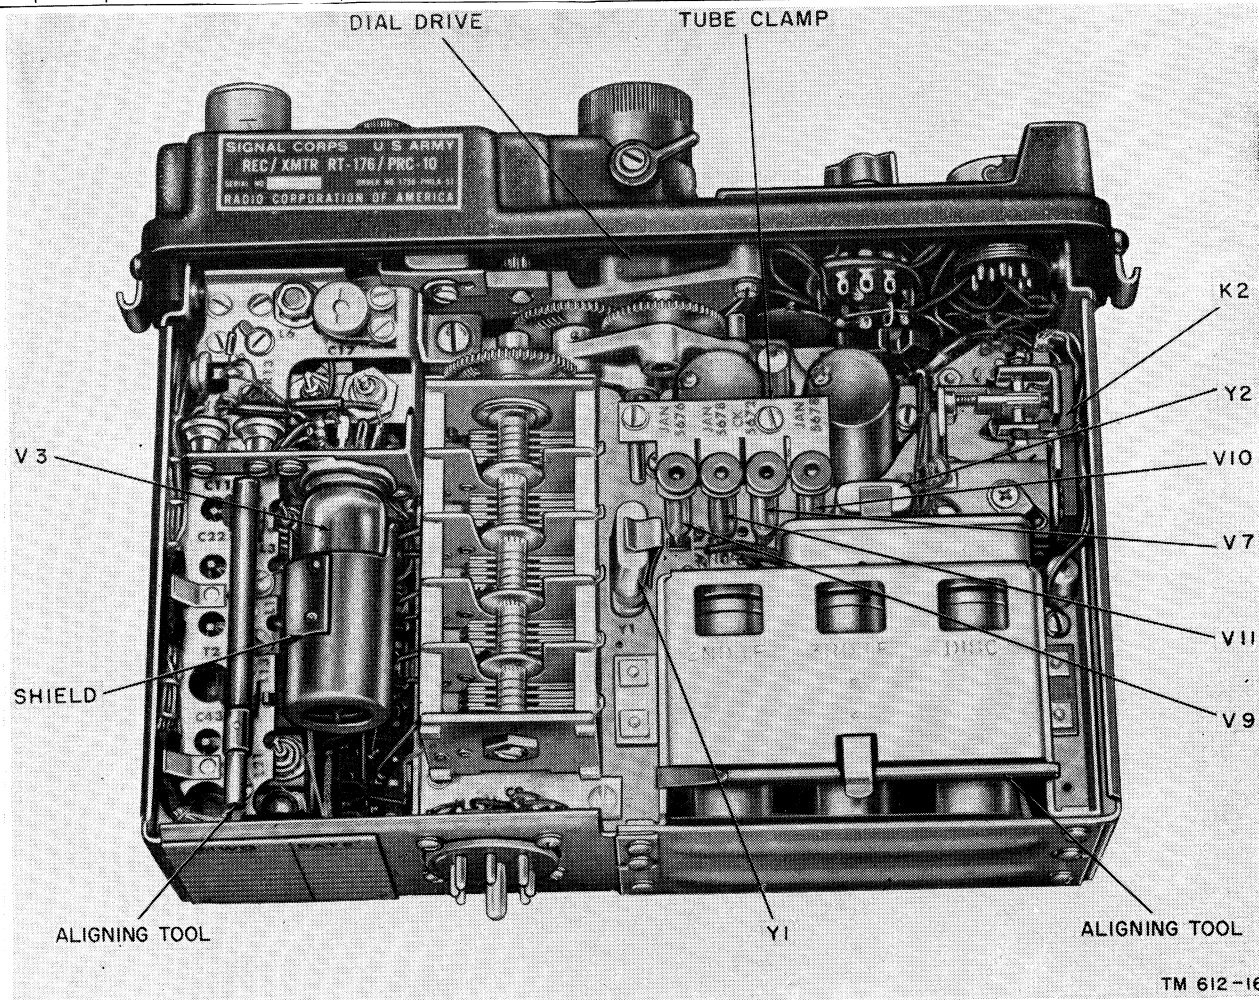
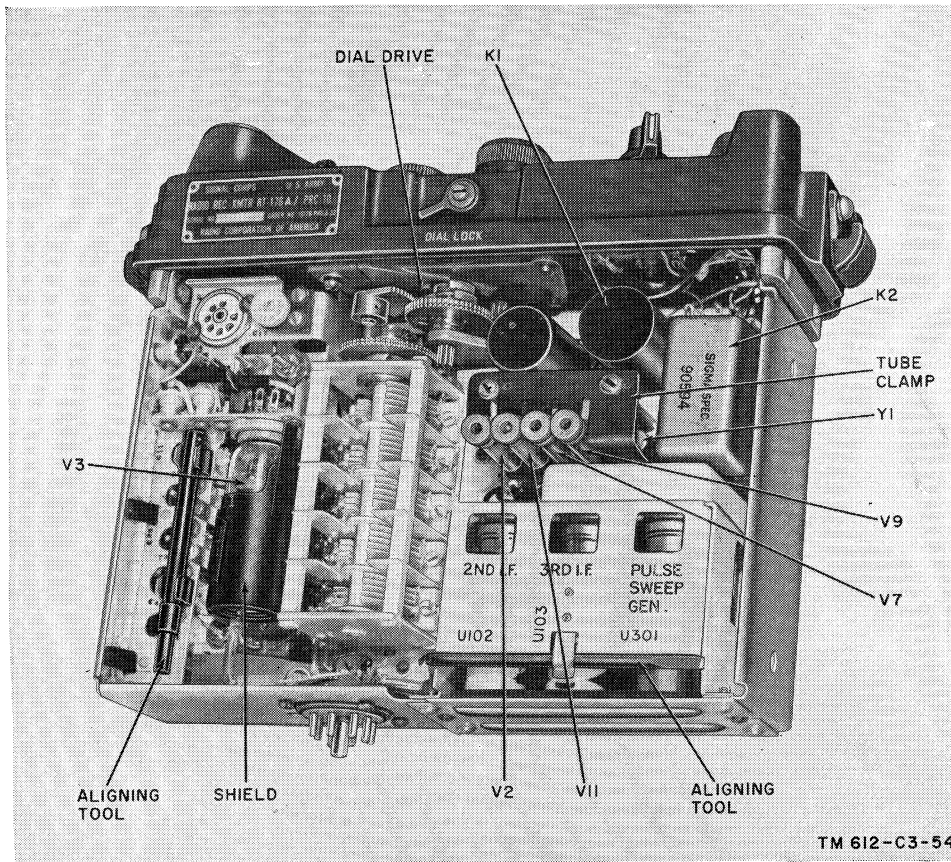

Figure 26. Receiver-transmitter chassis (unlettered models), bottom view.
Figure 28. Receiver-transmitter chassis (A models), bottom view.
*d. Corrective Measures.* The corrective measures listed are those the operator can make without returning the equipment for repairs. If the set is completely inoperative or if the recommended corrective measures do not yield results, higher echelon maintenance will be necessary (refer to TM 11-4065). However, if the tactical situation requires that communication be maintained, and if the set is not completely inoperative, the operator must maintain the set in operation as long as possible. For location of components, refer to figures 26 and 27 for the unlettered models, and to figures 28 and 29 for the A models of the receiver-transmitter.